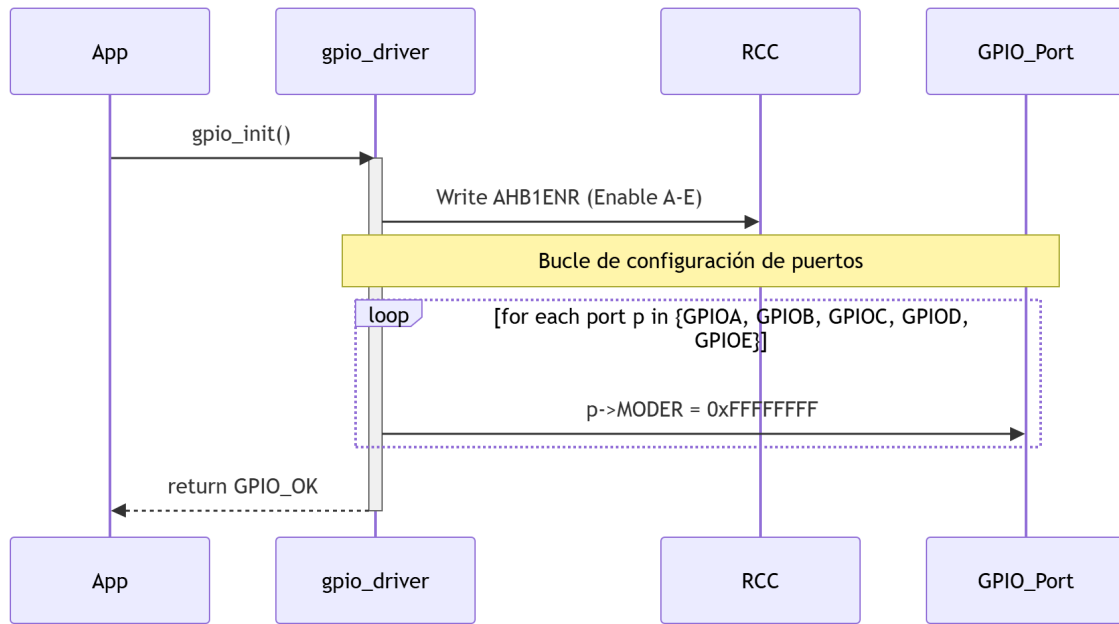

Figure 6. Sequence Diagram - Driver Action with Loop
- It writes `0xFFFFFFFF` to the `MODER` register of each port (Figures 6, 7 show the loop). This places all 16 pins of every port in analog mode, the hardware reset state. Doing it explicitly guarantees a known starting configuration regardless of what the bootloader may have left behind.